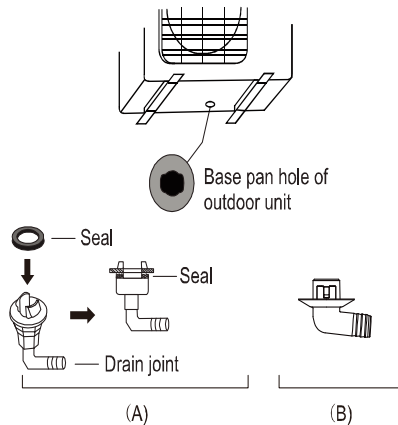

Fig. 4.4
**If the drain joint comes with a rubber seal** (see Fig. 4.4 - A ), do the following:
**If the drain joint doesn't come with a rubber seal** (see Fig. 4.4 - B ), do the following: